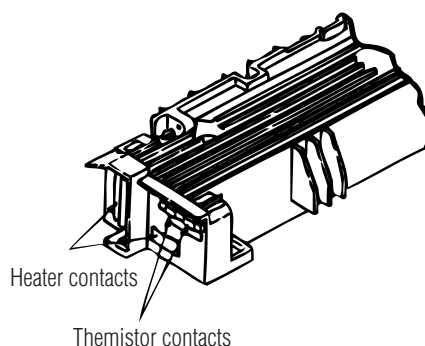

Figure 6-2
④ Fusing unit error (ERROR 71) (ERROR 72) (ERROR 73)
- Yes Is the thermistor open or shorted? Measure the resistance between thermistor contacts (about 220k Ω at room temperature) (see Fig. 6-2 or see 7.3).
- No Is the heater or the thermostat open? Measure the resistance between the heater contacts (normal resistance: about 0 Ω) (see Fig. 6-2 or see 7.3).
- No Is the AC voltage being supplied to the contacts for the heater of the contact assembly? (Refer Fig. 6-2)